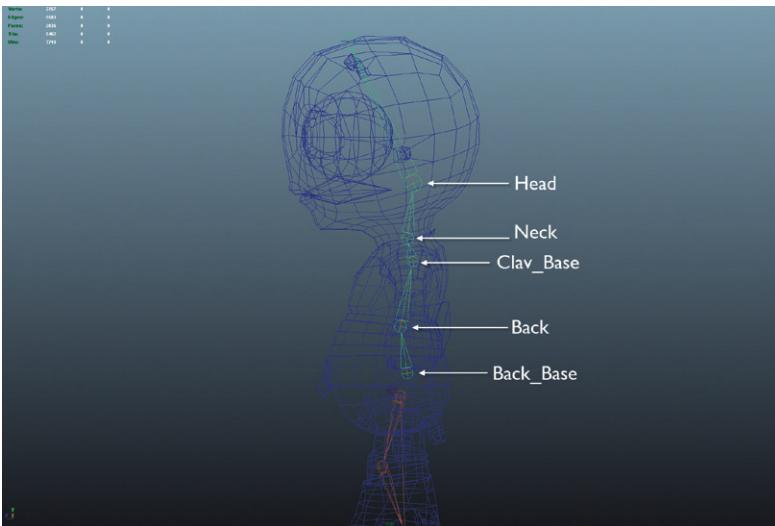

FIG 8.12 Spinal column.
Step 17: In the side view, create a spinal column. Do this by creating six joints for Back_Base, Back, Clav_Base, Neck, Head, and an extra joint for the head to point toward (Fig. 8.12).